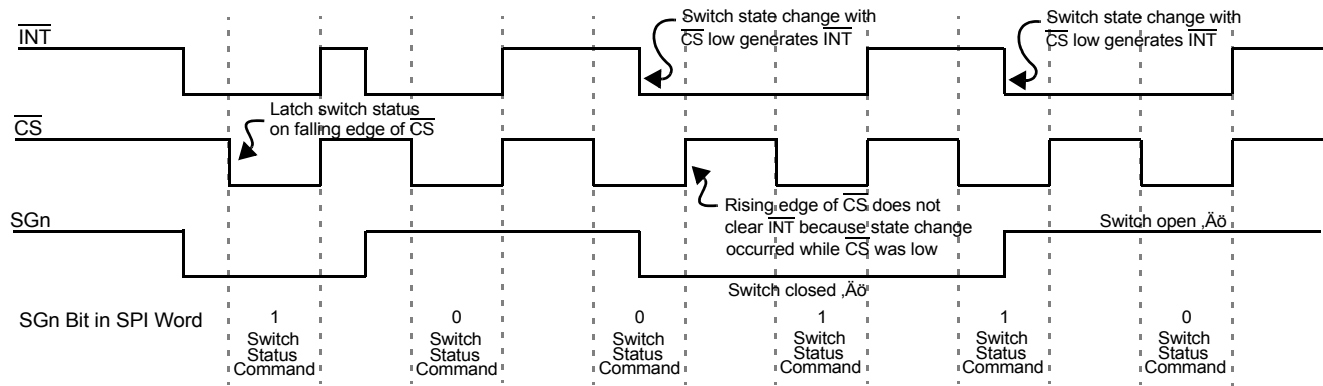

Figure 6. Normal Mode Interrupt Operation
2. \overline{INT} pin is reset to logic [1], except when additional switch changes occur during \overline{CS} low (see Figure 6, page 11).
Figure 6, page 11, is a graphical description of the device operation in Normal mode. Switch states are latched into the input register on the falling edge of $\overline{\text{CS}}$. The $\overline{\text{INT}}$ to the MCU is cleared on the rising edge of $\overline{\text{CS}}$. However, $\overline{\text{INT}}$ will not clear on the rising edge of $\overline{\text{CS}}$ if a switch has closed during SPI communication ($\overline{\text{CS}}$ low). This prevents switch states from being missed by the MCU.